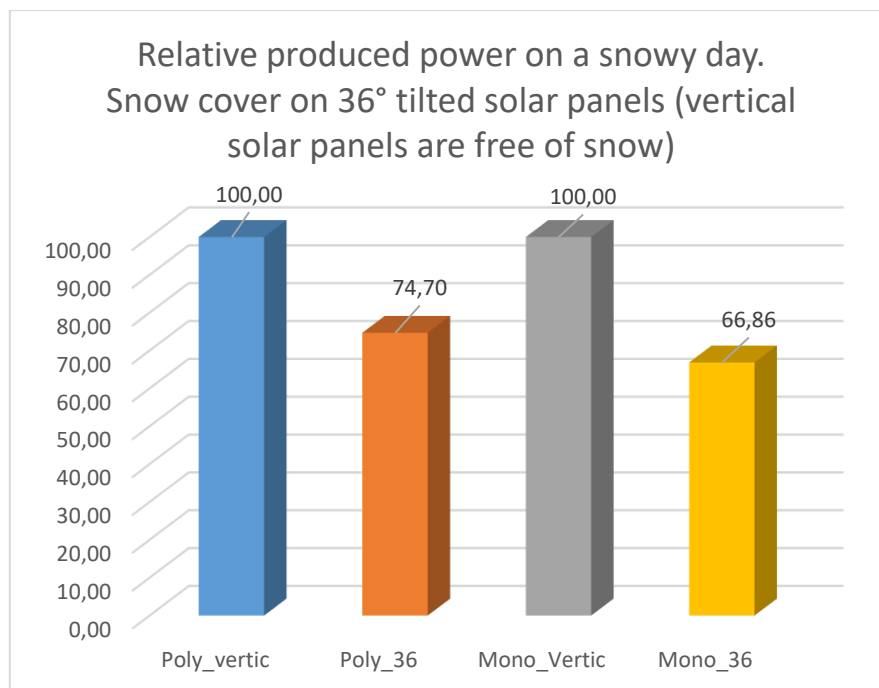

Figure 73 – Relative produced power on a snowy day. Snow cover on 36° tilted solar panels (vertical solar panels are free of snow)
e.g: poly or Monocrystalline) was as presented on the next Figure 73.